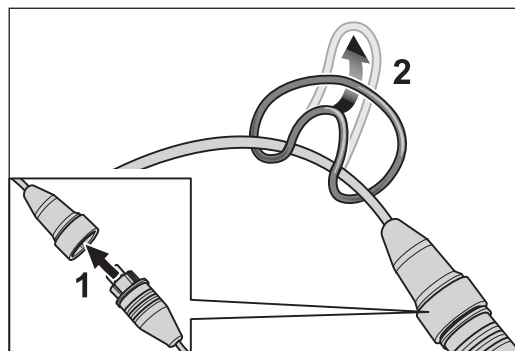
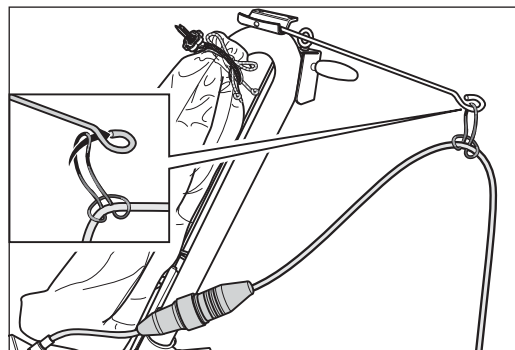

Fig. 21 Insert the plug of the motor cable in the coupler of the extension cable (1). Fasten the strain relief ring on the extension cable (2).
Fig. 22 Mount the strain relief ring on the cable support.
- 2 Insert the plug of the motor cable in the coupler of the extension cable (fig. 21, 1).
- 3 Fasten the strain relief ring on the extension cable (fig. 21, 2) and mount the strain relief ring on the cable support (fig. 22).